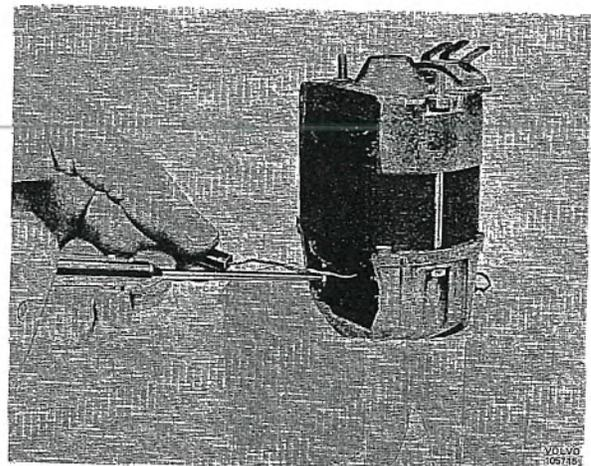

Fig. 8-52. Soldering brushes
4. Solder on new brushes (see Fig. 8-52).